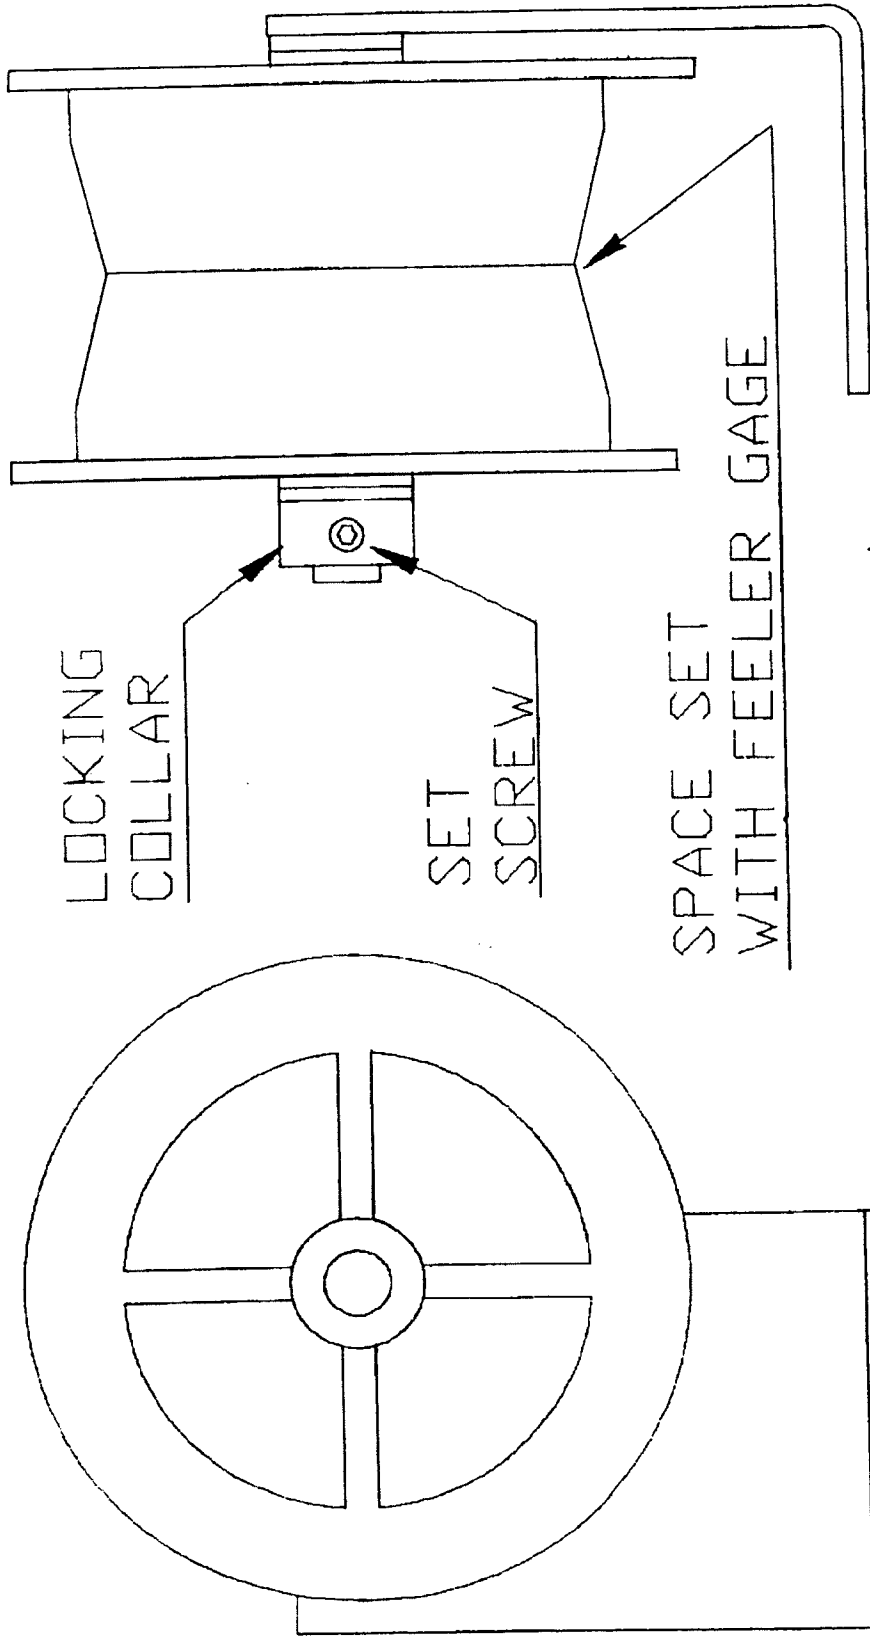

FIGURE 35
1. Refer to Figure 35, loosen the set screw in the locking collar and remove collar.